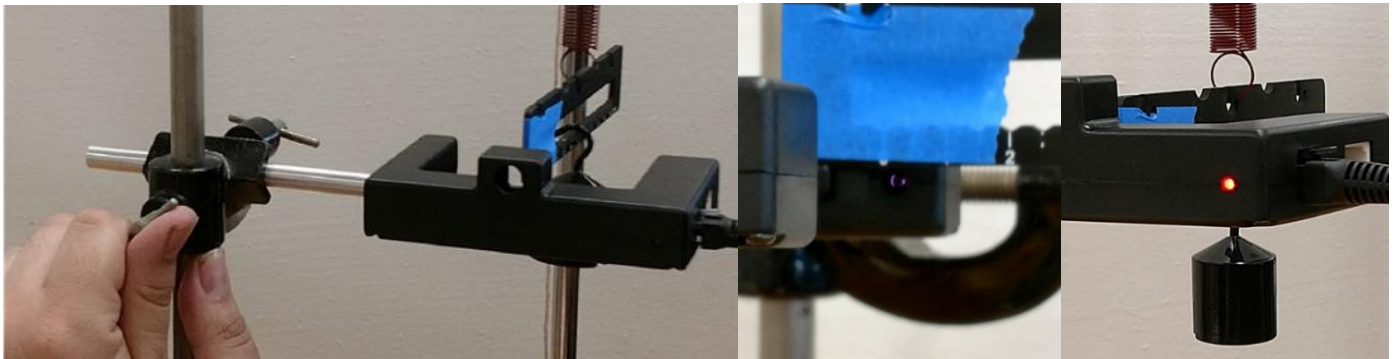

Figure 6 – Adjusting the Parallel Hook Bar Location
- b. Start by moving the photogate stand and the photogate itself so that the taped side of the parallel spring bracket breaks the photogates beam. You can see when the beam is broken when the red LED on the backside turns on. Method for adjusting the photogate and the red LED are shown in Figure 6.
- c. Once the beam is being blocked lightly loosen the screw clamp and very slowly move the photogate downward until the beam is no longer broken (when the red LED turns off). Refer to Figure 6 for a method of lowering the bracket.